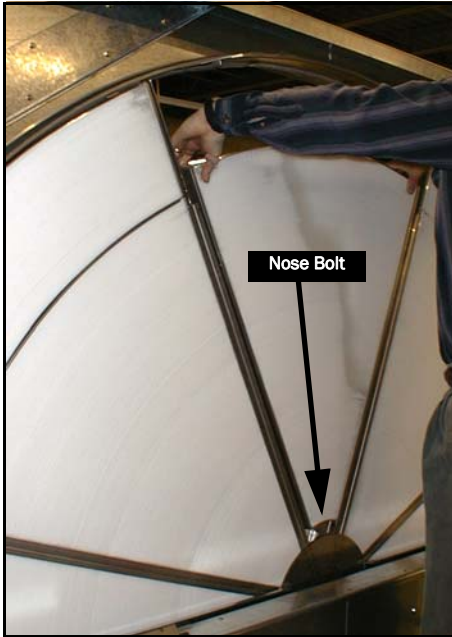

Figure 25 Remove nose bolt and remove interior segment.
- To remove the inner segment, support segment with one hand while removing 1/4-20 flat head nose bolt in the hub with a 5/32-inch Allen wrench, Figure 25. **WARNING: AS SOON AS THE NOSE BOLT IS REMOVED, THE SEGMENT IS NO LONGER SECURE.**
- With weight of segment resting in the lower spoke pocket, carefully slide segment out from between hub plates, Figure 25.
- Rest segment on lower spoke, grasp nose of segment with one hand and the outer corner of the segment in the other hand, then remove segment from wheel, Figure 25.
- Reinsert 1/4-20 bolt in segment nose bracket, Figure 25, to avoid loss.
- Remove ¼ - 20 flat head bolt from segment nose bracket, Figure 25.
- Center and rest segment on lower spoke. Slide inner segment along spokes until nose bracket contacts stop in hub plate, Figure 25.
- Insert nose bolt and tighten until bolt is firmly seated, Figure 25.